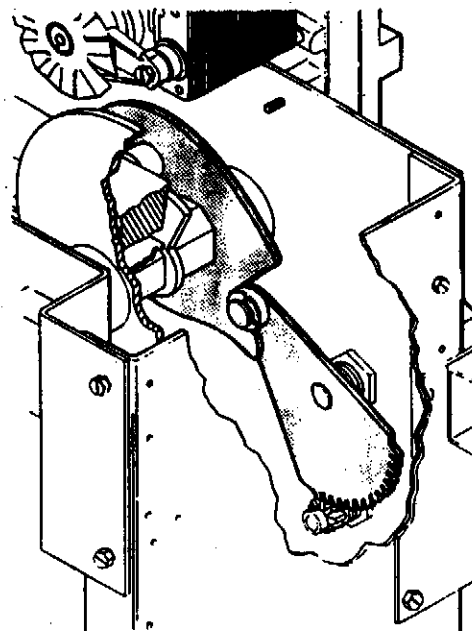

FIGURE 15
5. Confirm that the cam follower is in the deepest valley of the rear cam (See FIGURE 15) by cycling the brewer to this position. This position of the cam and follower guarantees that the brewer is in the dump position.
8. While holding the follower in the valley of the cam, (see FIGURE 15) install the outer section of the cable spool over the inner section. Release the follower and spool and check that the clearance set above is maintained. If so, make a new reference mark across the spool and remove the outer section of the spool and rotate it counter-clockwise one tooth-skip to Step 10.